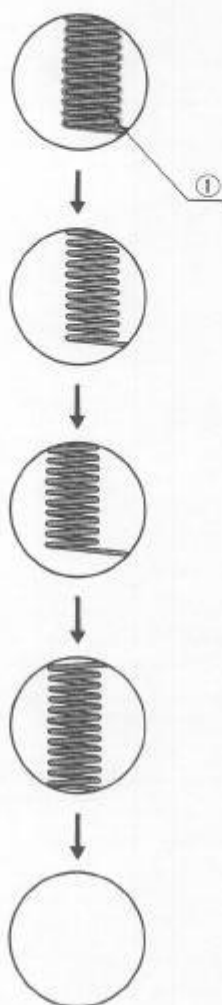

Fig. 31
3) Flip up the frosted filter so that the image of the bulb filament ① can be observed. (Fig. 31)